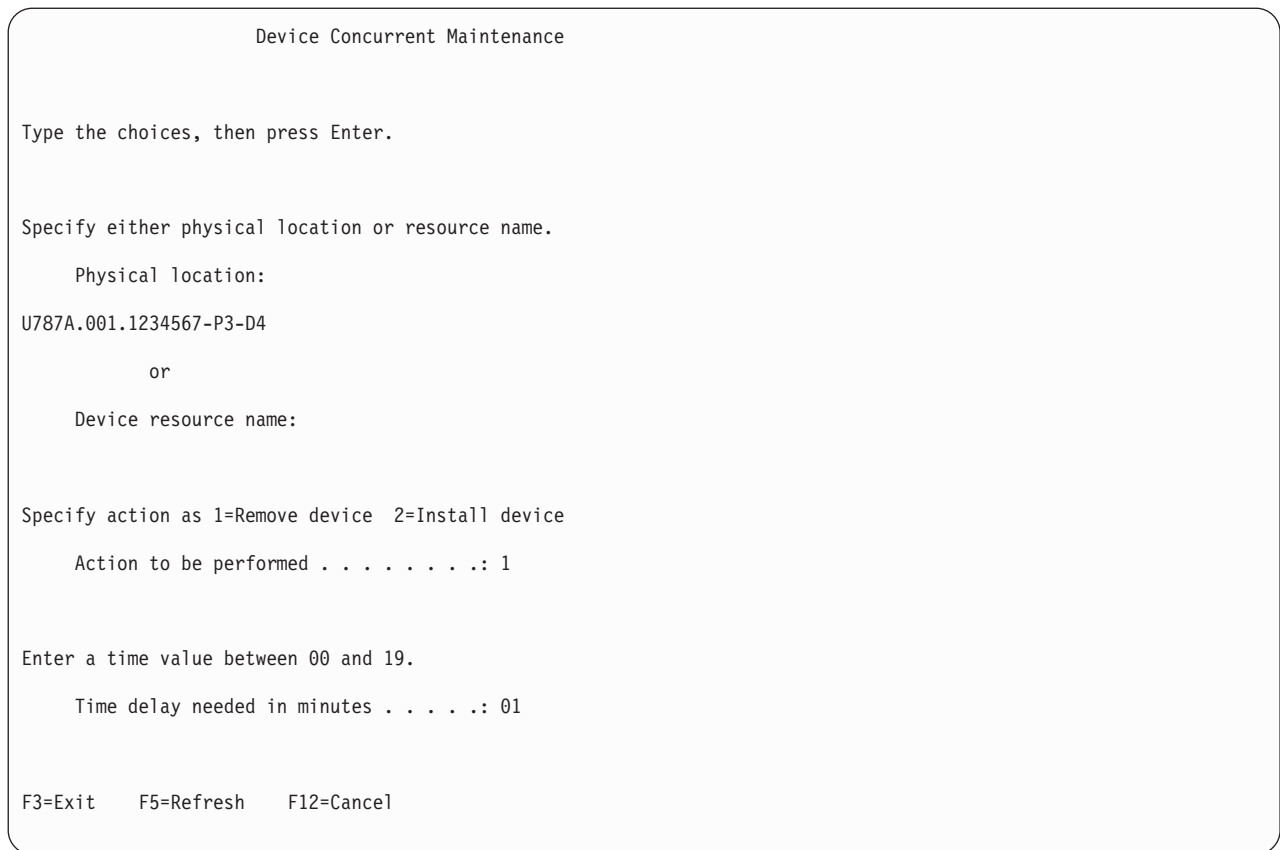

Figure 78. Example Device Concurrent Maintenance display
8. If the physical location does not appear in the Device Concurrent Maintenance display, type the physical location where you are replacing the disk drive as shown in the preceding example, Figure 78.